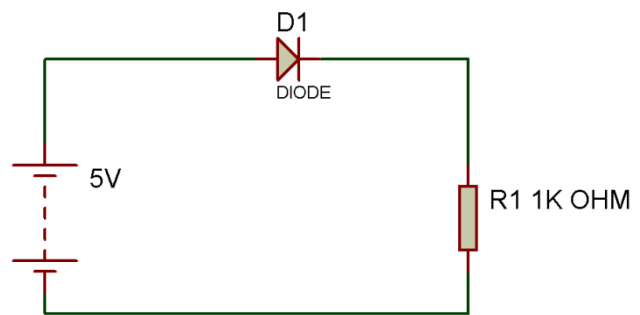

Figure 2
The schematic for this experience is shown in figure 2. Figure 2 shows a method of placing the components on the board for the experience.
2. Place components into the board as shown in figure 2.